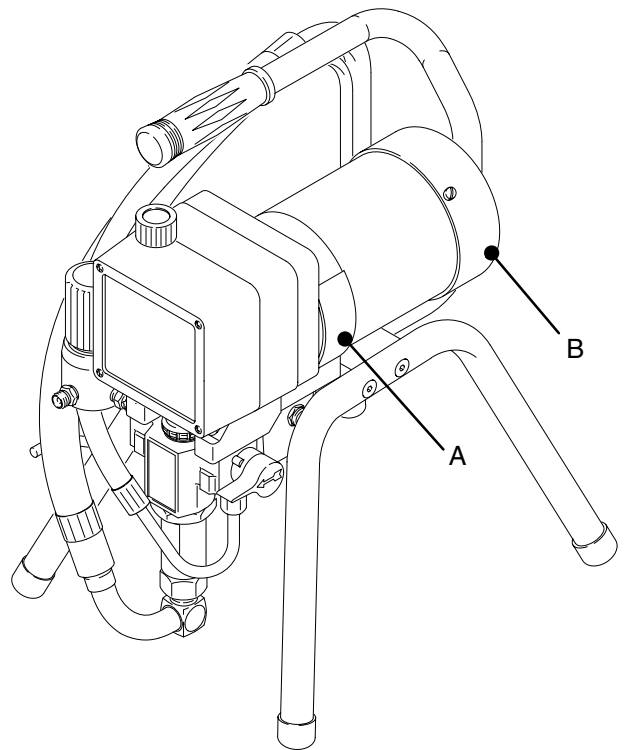

Fig. 12 Model 231–584 Shown
Remove the motor brush inspection covers (A). See Fig. 12.
Remove the fan cover (B). See Fig. 12.